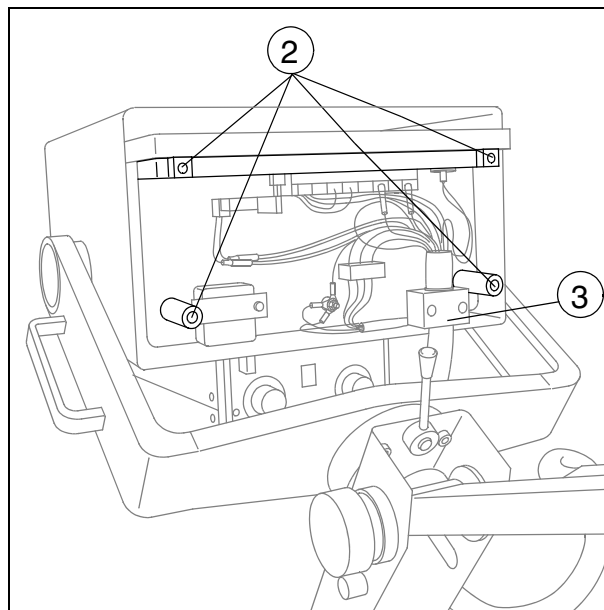

Fig. 2
- Remove the four Allen screws of the single tank generator cover (2/ Fig. 2), remove the cover, disconnect the connections and the strain relief of the corrugated tubing (3/ Fig. 2) and remove it.